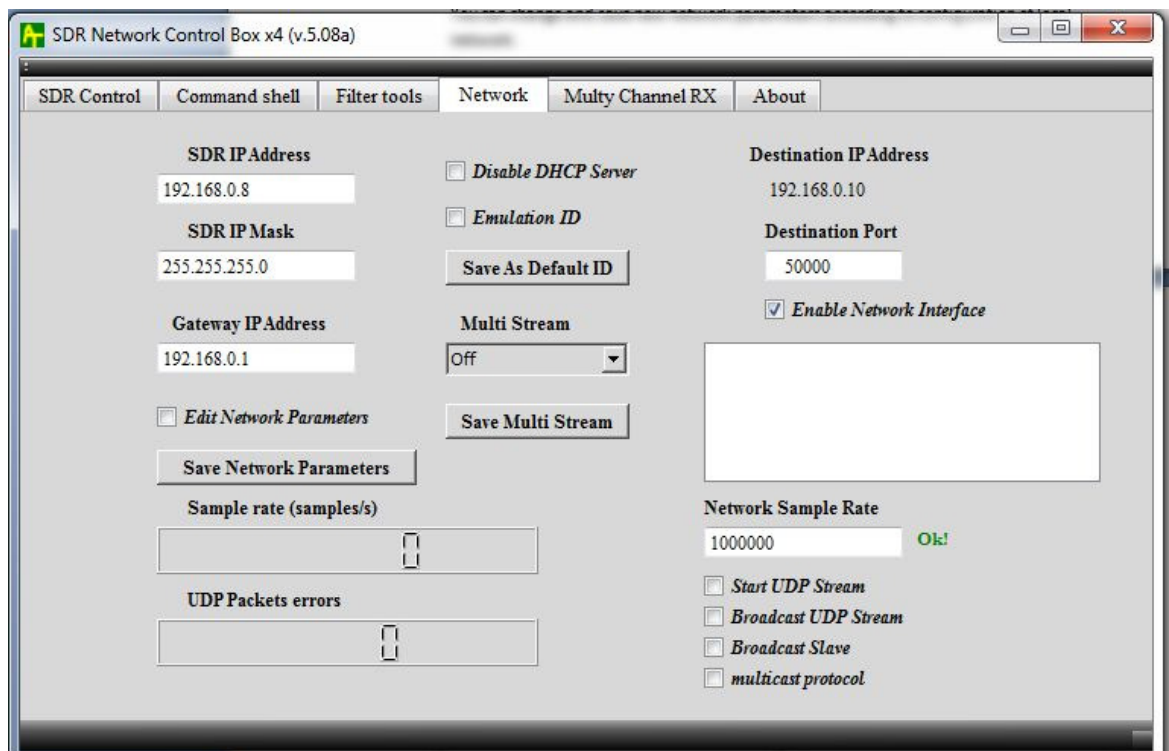
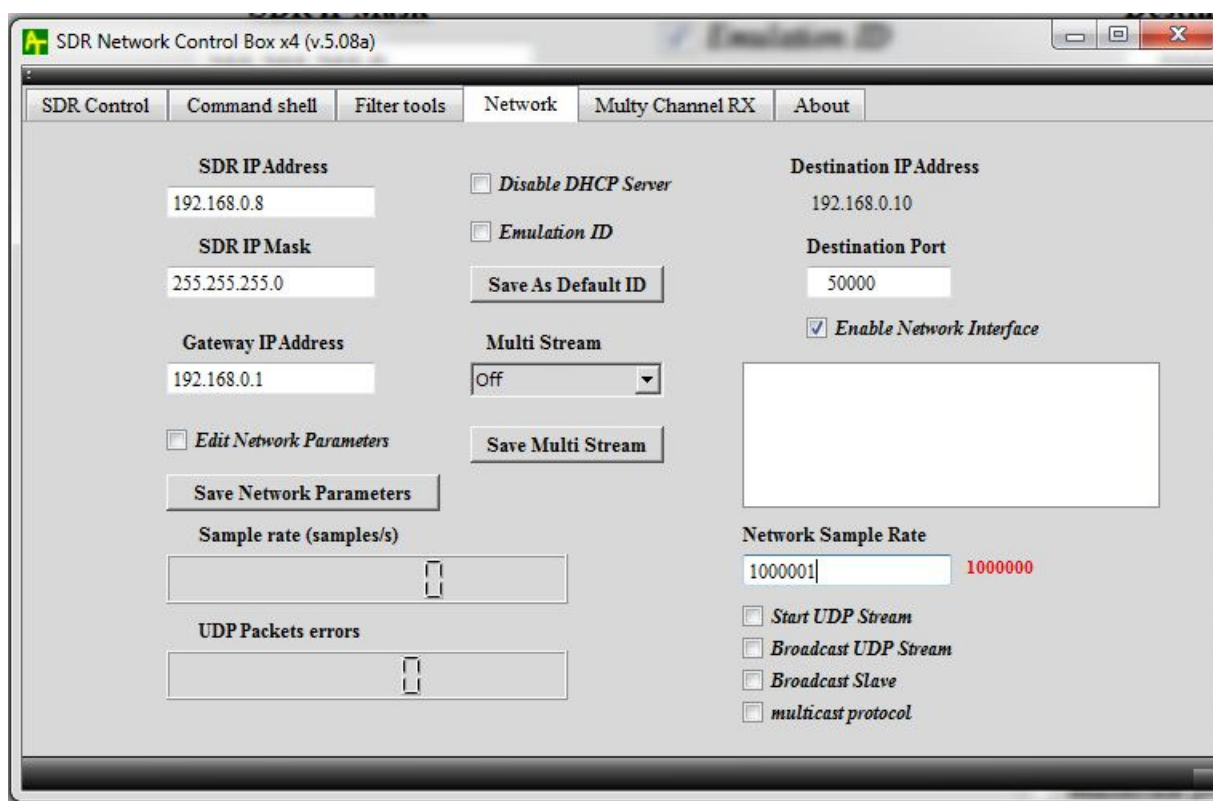

Figure 6 Network tab (correct sample rate value).
Figure 7 Network Tab (non correct sample rate value)
"Network" tab screen shot is shown on **Figure 6.** and **Figure 7.** there is concentrated all parameters that are needed to provide network functionality of SDR Network Control Box when it is used as Winrad plug-in, when receiver AFEDRI SDR-Net is connected to PC using network interface. You can see screen shot of "Network" tab on **Figure 6.** The functionality of all user interface elements (tabs, text windows, check boxes) that located on this tab very depends on type of connection between PC and SDR - USB or Network.
3.3.3. Text Box **"Network Sample Rate"** - is used to change current sample rate of SDR when network connection is used. The new value will be sent to AFEDIR SDR-Net immediately after "Enter" button is pressed. Any sample rate value that was entered in this window is checked for correct value that can be achieved in AFEDRI SDR-Net hardware, the real value depends also on "Main Clock Oscillator frequency" so it has to be corrected if "Main Clock Oscillator frequency" was changed due to calibration procedure (see paragraph 3.2.12). If sample rate value is correct, application will show green colored "Ok" message on right side of the "Network Sample Rate" text window (see figure 6.). If sample rate value is not correct, application will show red colored precision value of sample rate. So user can correct sample rate accordingly.